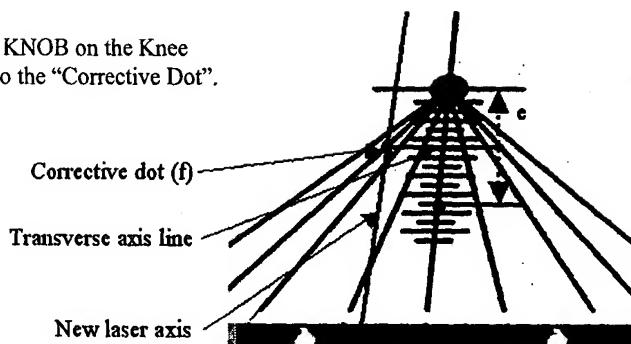

Fig. 15
- e. Carefully measure the distance between dot **L** and dot **M** with a ruler or by counting the number of 2mm lines on the built-in ruler results in a distance "e" (Figure 15) divide this distance by two. Draw a short midline transverse axis between the dots. (Figure 15)
- f. Using the same midline distance in mm (one-half of distance "e") make a "Corrective dot" in the direction of the correction on this midline. (Fig. 15)
- g. With the Knee Laser returned to centerline of the Target, dial the **ADJUSTMENT KNOB** on the **Distal Femoral Resector Guide** to a parallel position with the "Corrective Dot". This adjustment will correct the longitudinal axis of the Knee to the center of the femoral head. (Fig. 15 & 16)